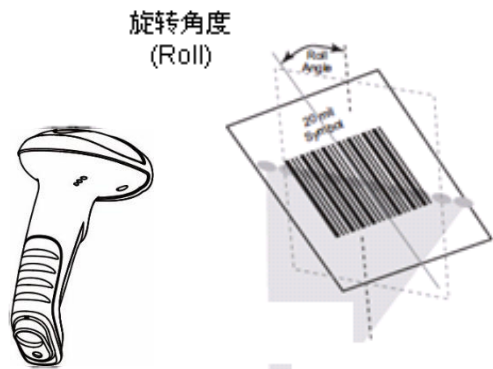

Fig. 1-13
- ◇ Roll : $\pm 30^\circ$, 0° Pitch and 0° Skew (Fig. 1-13)